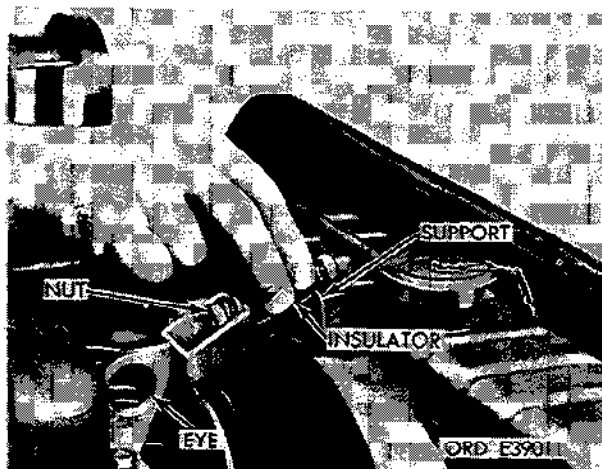

Figure 2-135. Radiator support and insulator.
(3) Loosen nuts and remove radiator insulator assembly from radiator support and engine lifting eye (fig. 2-135).